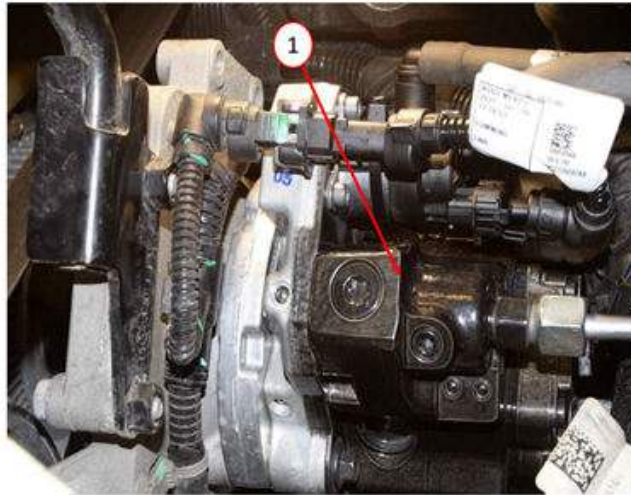

Fig. 1
NOTE: The only calibration available will be for the updated CP3.3 design high-pressure fuel injection pump Fig. 1. Please ensure that recall Y78 has been completed first before proceeding with this update.
1. Inspect the high-pressure fuel injection pump Fig. 1 to verify which pump is currently installed on the vehicle. **Also review the vehicle VIP report to see if campaign Y78 has been performed.**